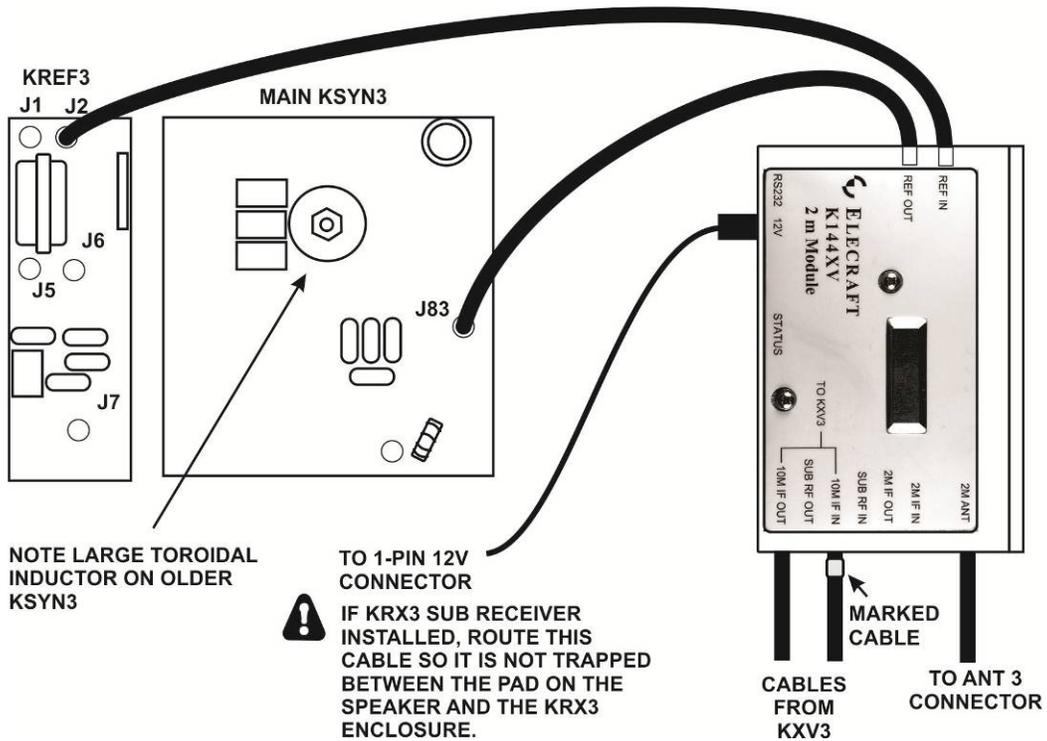

Figure 17. K144XV with K144XV Ref Lock and Original Synthesizers.
- If you have the optional K144XV Ref Lock installed and your K3 has the original synthesizers (with a large toroidal inductor near the center, see Figure 17).